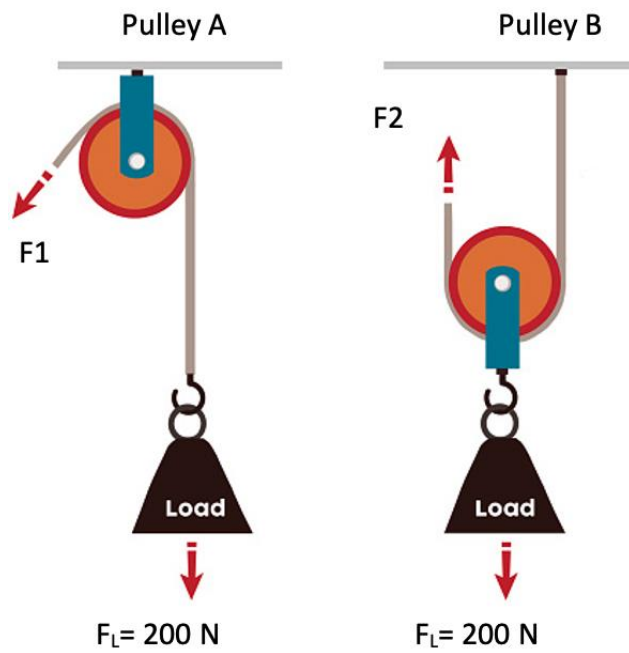

Figure 9: Pulley Setup
b. Figure 9 shows two pulley setups. Explain the forces F_1 and F_2 when lifting the 200N load.